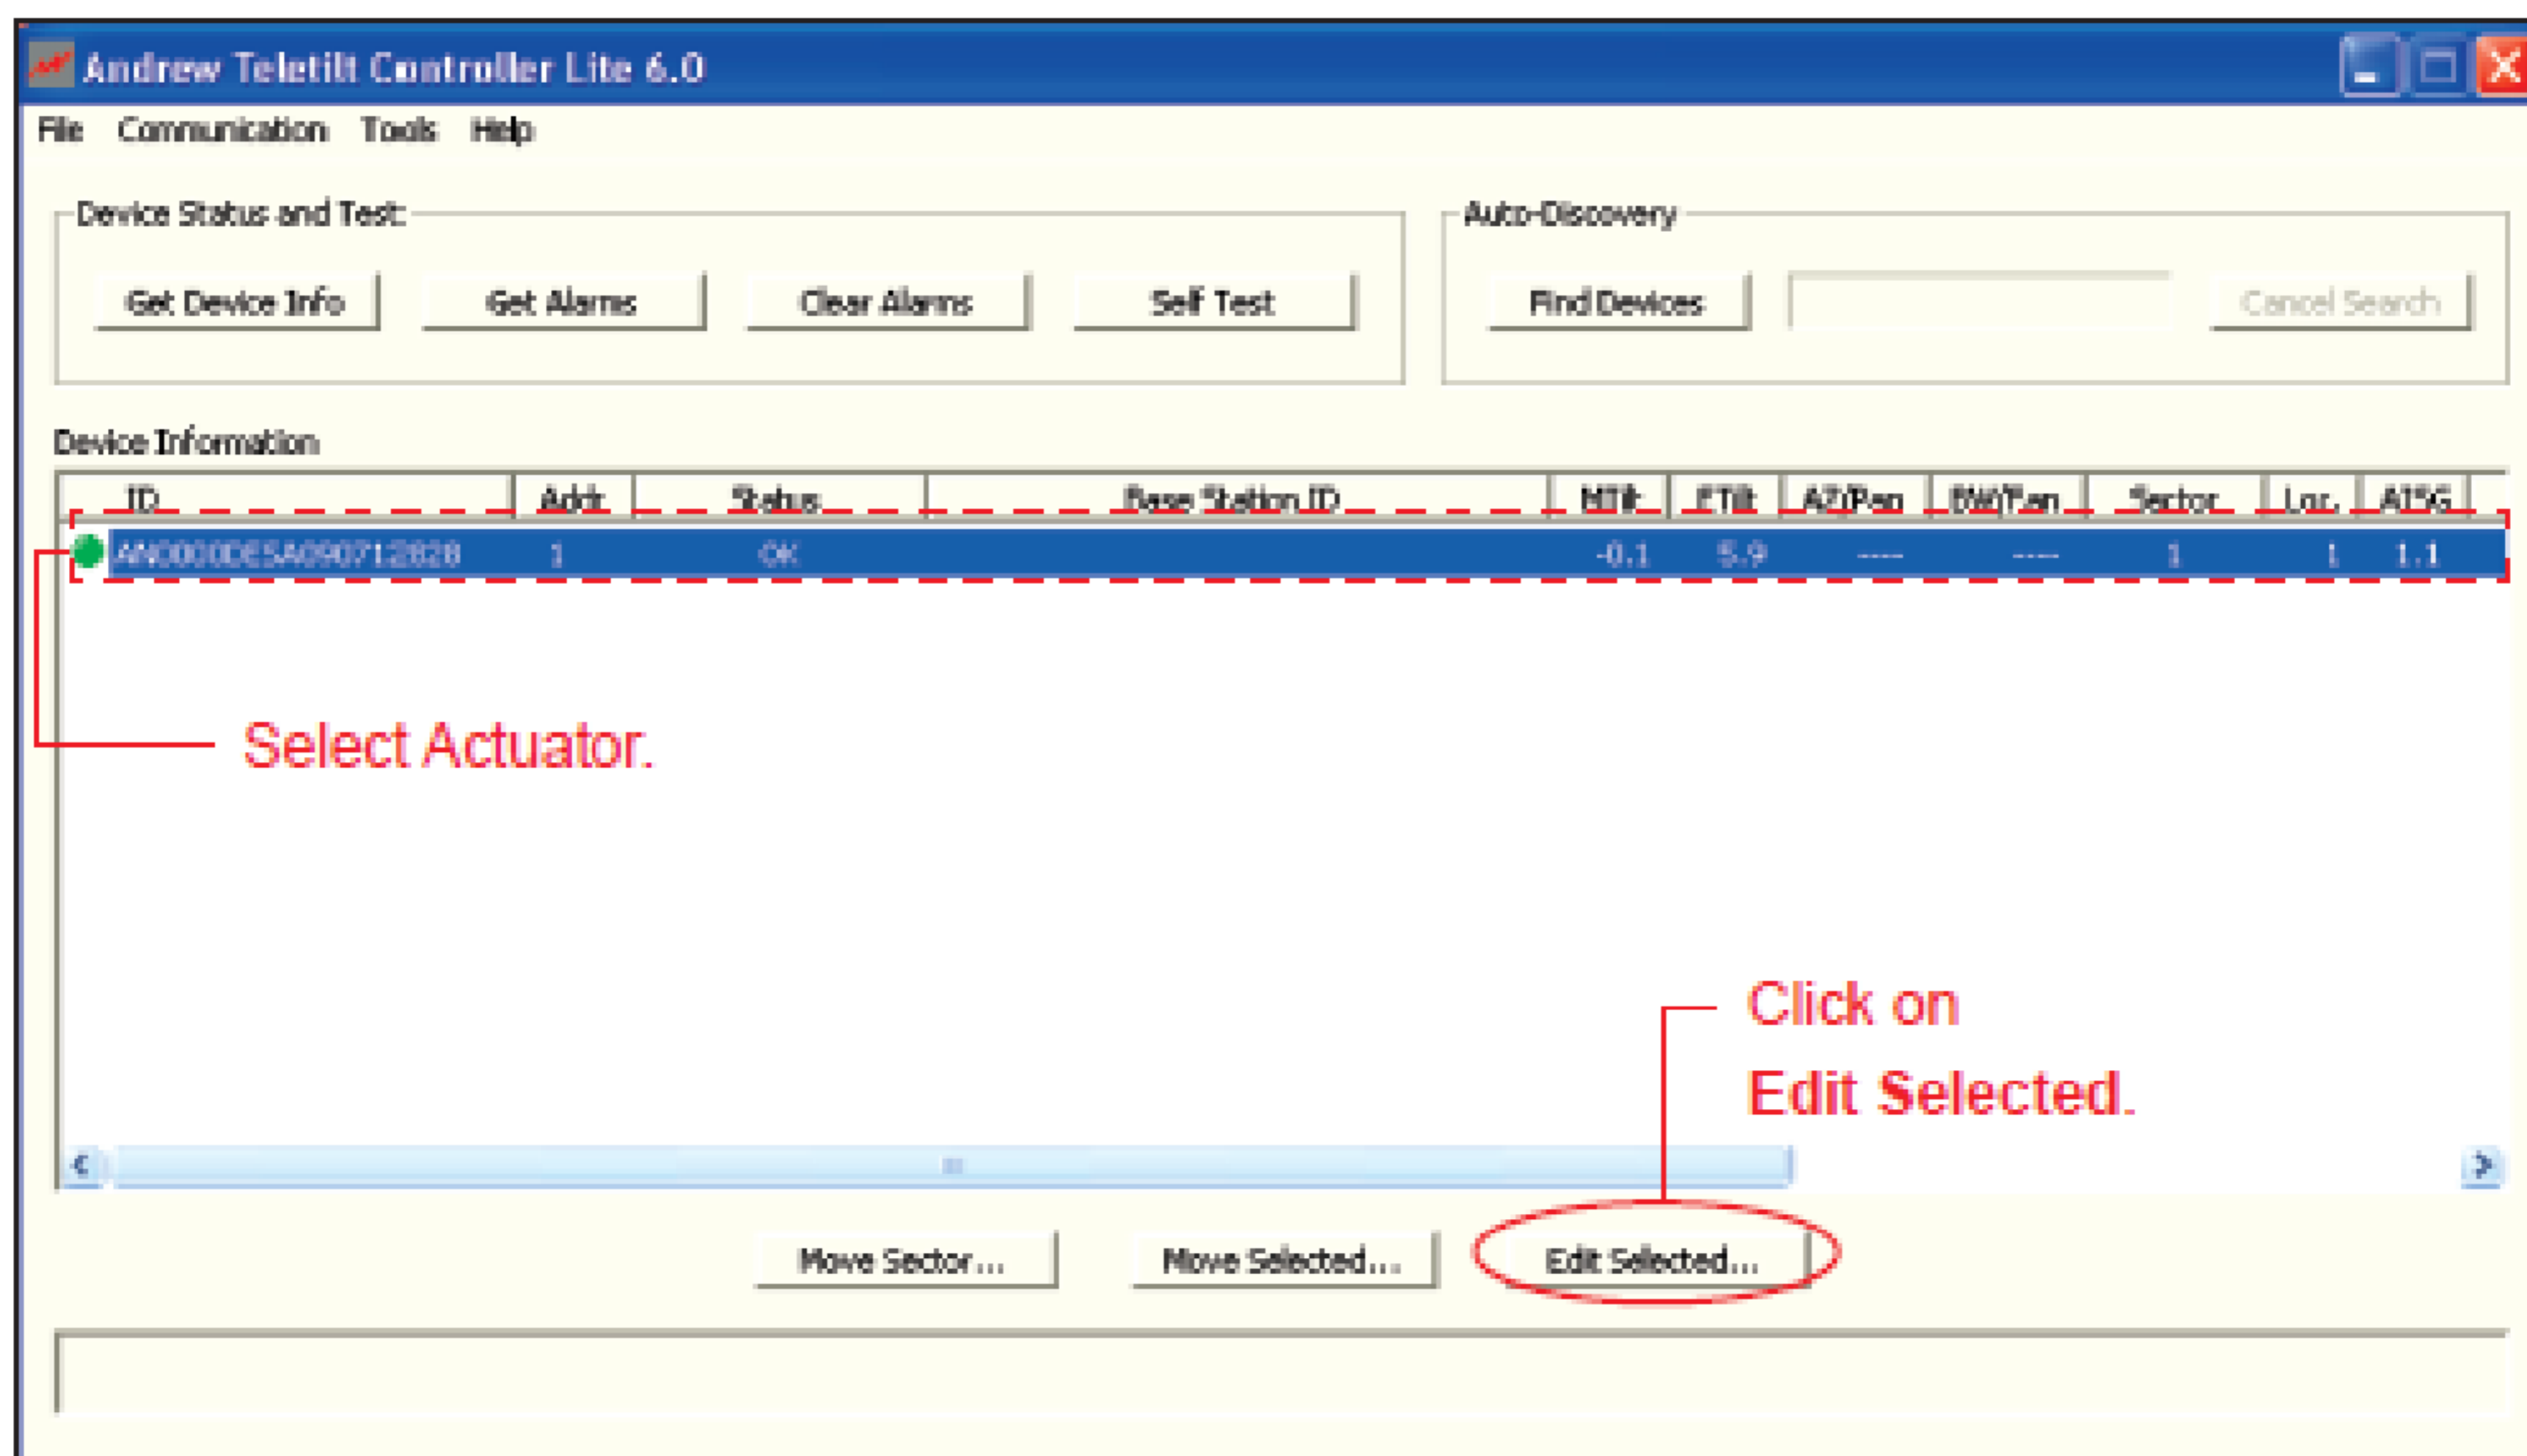

Figure 3-3. Selecting Actuator In A RET Antenna System.
- With the actuator selected, click on **Edit Selected** (Figure 3-3).